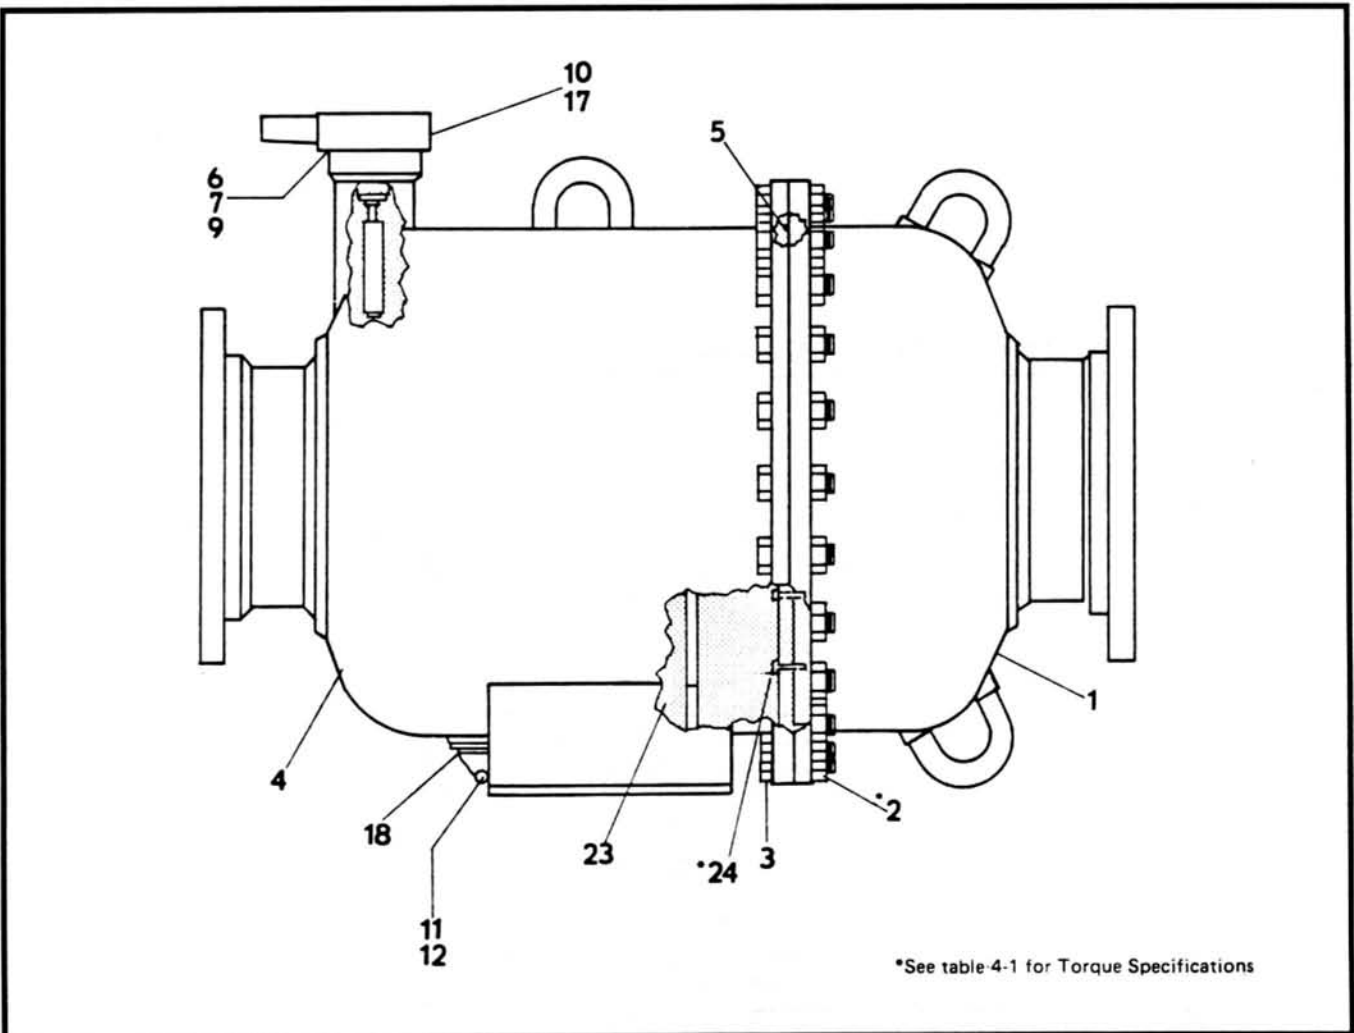

Figure 6-1 Complete Meter Assembly
3. Connect the measuring unit (Figure 6-1, Item 23) to the end cover (Item 1) with socket head screws (Item 24).
Table 4-1 Torque Specifications BA-103 through BA-135 (See Figure 6-1)